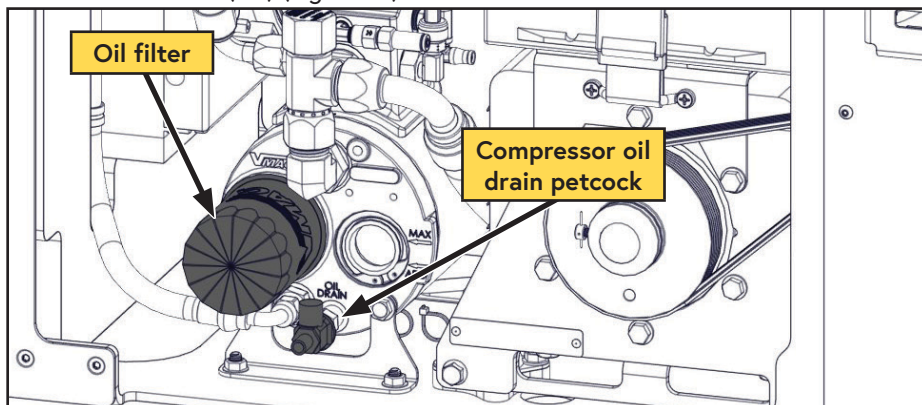

Figure 27 — Compressor oil filter
- ☐ Open the oil drain petcock and drain the oil into a container with a capacity of at least 1.6 USG (6 L) (Figure 27).
- ☐ Remove the oil filter (Figure 27).